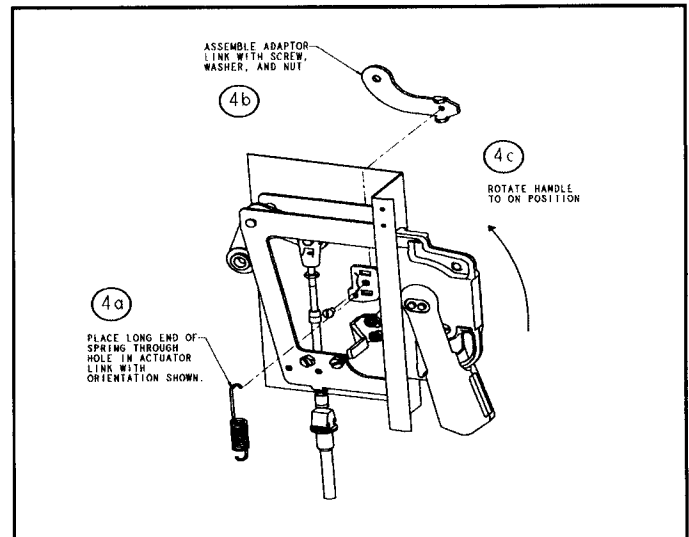

Fig. 1-4 Assembly of Spring and Adapter Link to Actuator Link
4. Connect long end of the spring through hole in the actuator link. See Fig. 1-4. Attach adapter to actuator link using the #10-32 SEMS screw. Rotate handle to on position when attaching the spring.